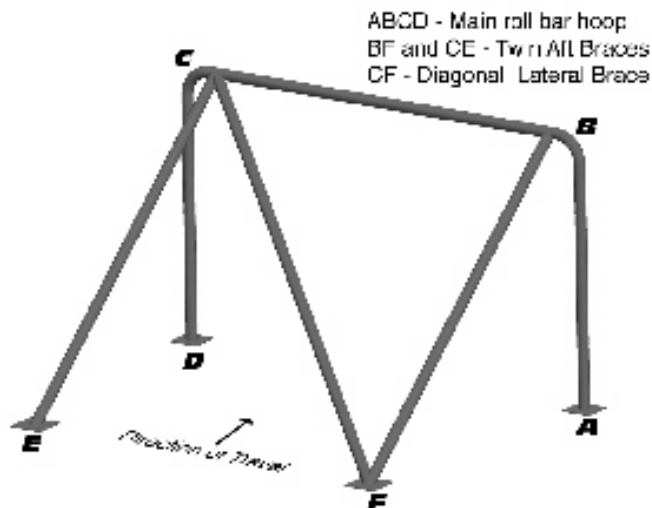

FIGURE 3
- A. Roll bar hoops must have two (2) fore/aft braces with tubing of dimensions at least equal to that required for the main hoop itself. Diagonal lateral bracing of equal dimension tubing must be installed to prevent lateral distortion of the hoop. (In most cases, a lateral brace from the bottom corner of the hoop on the side to the top corner of the hoop on the other side is sufficient). The following alternatives are permitted. Although installing the diagonal lateral brace in the main hoop is the strongest (and hence most preferable) alternative, there may be instances where such an installation is not practical. In such situations, the installation of the diagonal brace as shown in Figure 3 will be acceptable.